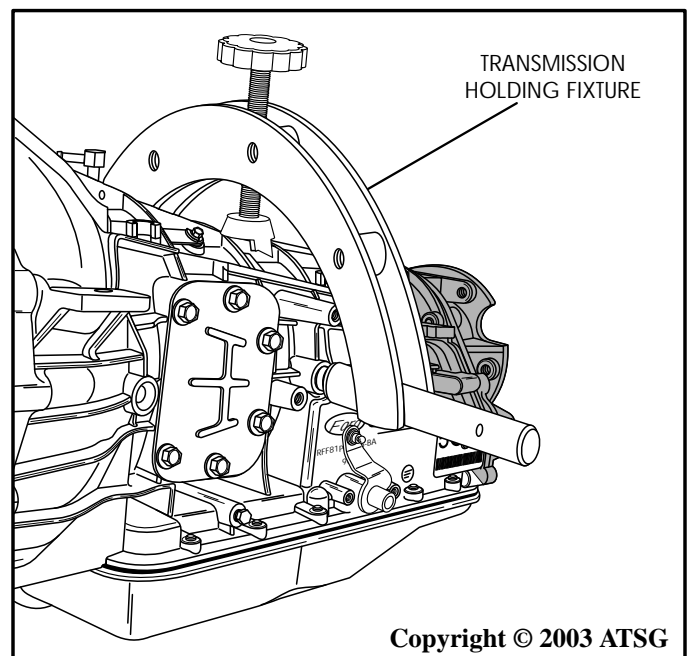

Figure 46
4. Install a compatible holding fixture onto the transmission case, as shown in Figure 46, that will allow you to safely rotate the transmission when installed in the bench fixture.